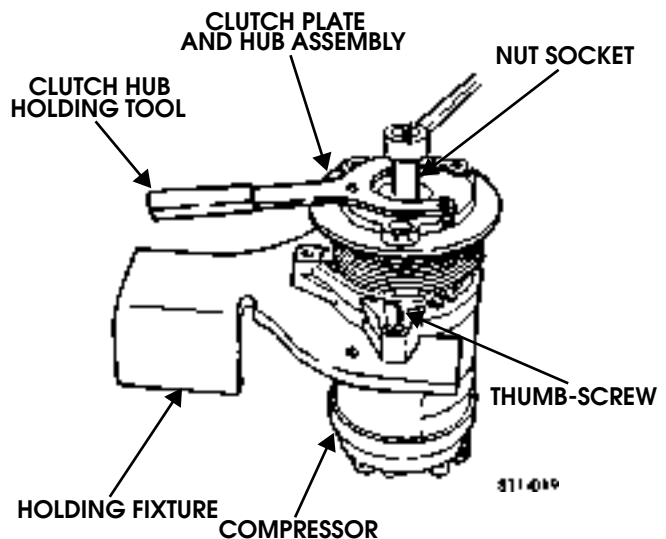

Figure 11-26: Compressor
2. Clamp the holding fixture in a vise and attach compressor to holding fixture from set J-34021-A with thumb-screws (Figure 11-26).
7. Remove the remover/installer and check for proper positioning of the shaft key (even or slightly above the clutch hub). Install the shaft nut. Hold the clutch plate and hub assembly with clutch hub holding tool, and using nut socket, tighten the nut against the compressor shaft shoulder to 8-16 lb-ft (11-22 N•m) (Figure 11-26).